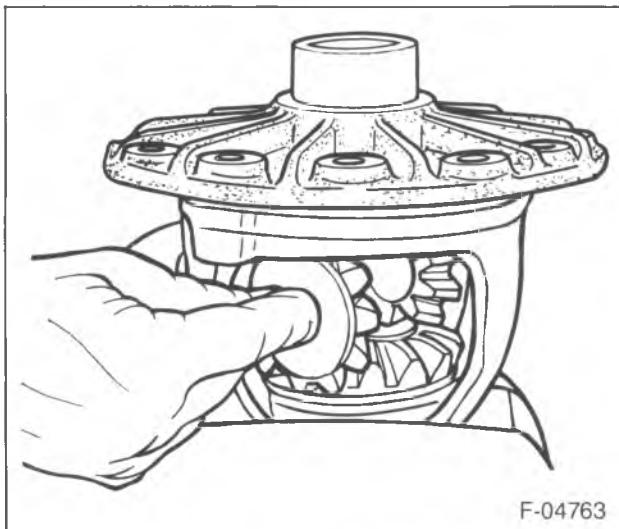

Figure 18—Installing the Pinion Gears
- New side gear thrust washer (27) to the side gears (25).
- Side gears (25) to the differential case.
- Place the side gears in place on the same side as removed (figure 18).